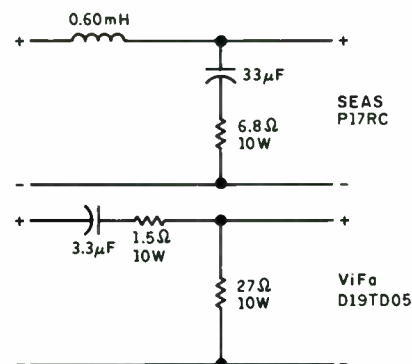

FIGURE 1: Crossover network.
**CROSSOVER.** The crossover (*Fig. 1*) is a computer optimized first-order network, utilizing high quality parts. All the capacitors are Solen Chateauroux polypropylene types. The inductors are Solen perfect lay windings. The tweeter section has an attenuation circuit to drop its output level, so it matches that of the woofer. I used a Zobel on the woofer for impedance equalization. The Zobel network also works in conjunction with the inductor to smooth out the rise in frequency at the upper end of the woofer's response. I separated the high- and low-pass sections, giving each its own input terminals, which allows them to be used in a biwire configuration. I made all internal connections with high quality, audiophile grade wire.